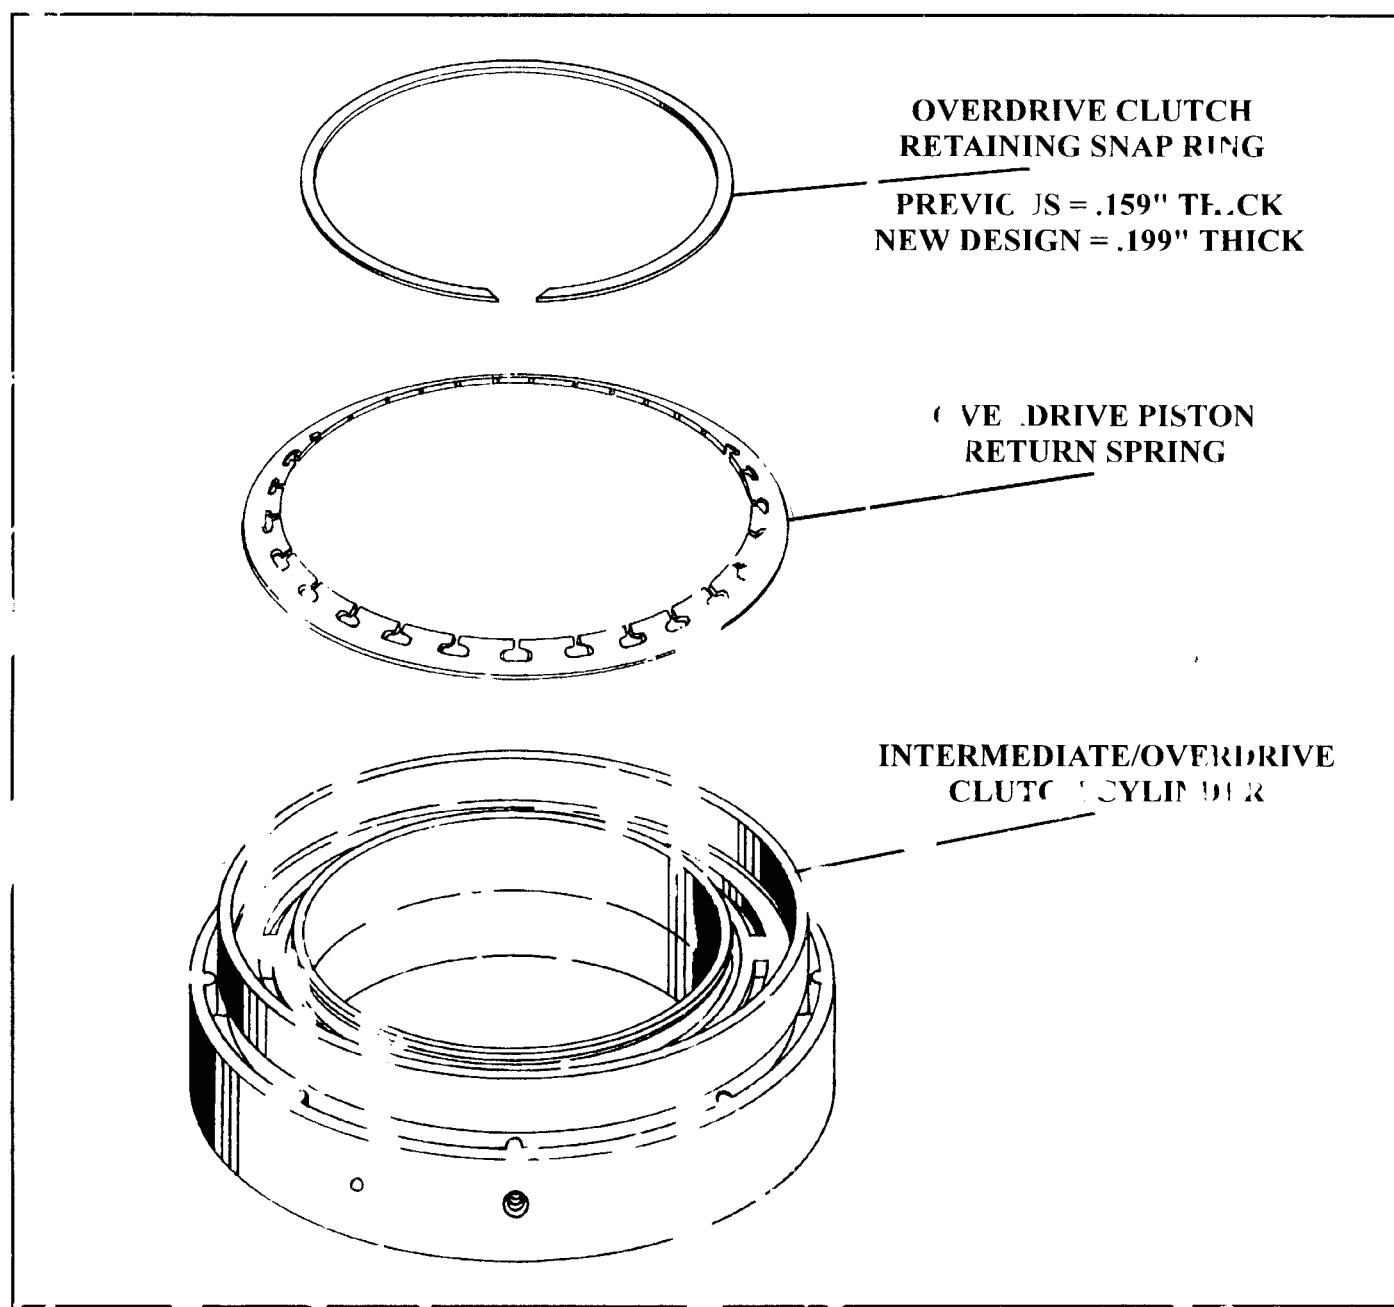

Figure 29
**COMPLAINT:** Harsh 3-4 shift, and/or, upon transmission disassembly the Overdrive Clutch retaining snap ring is dislodged from the groove (See Figure 29).
**CORRECTION:** Install a new design (Thicker) snap ring that has more tension than the previous design. The new design snap ring is .199" thick and the previous design is .159" thick, as shown in Figure 29.